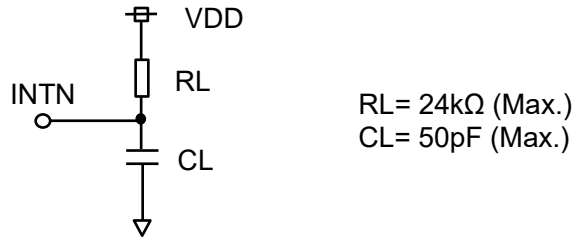

Figure 9.2. INTN Output Load Circuit
- \* 11. When the load circuit of Figure 9.2 is connected.